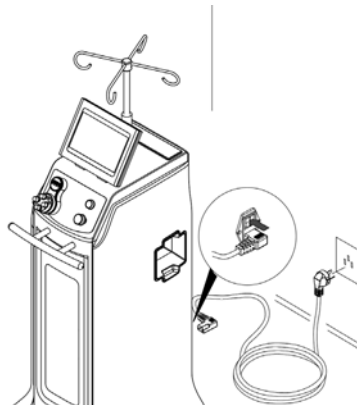

Figure 41 To Connect Power
1. Verify the rover is connected to facility power and Push the power switch to the ON position (Figure 41).